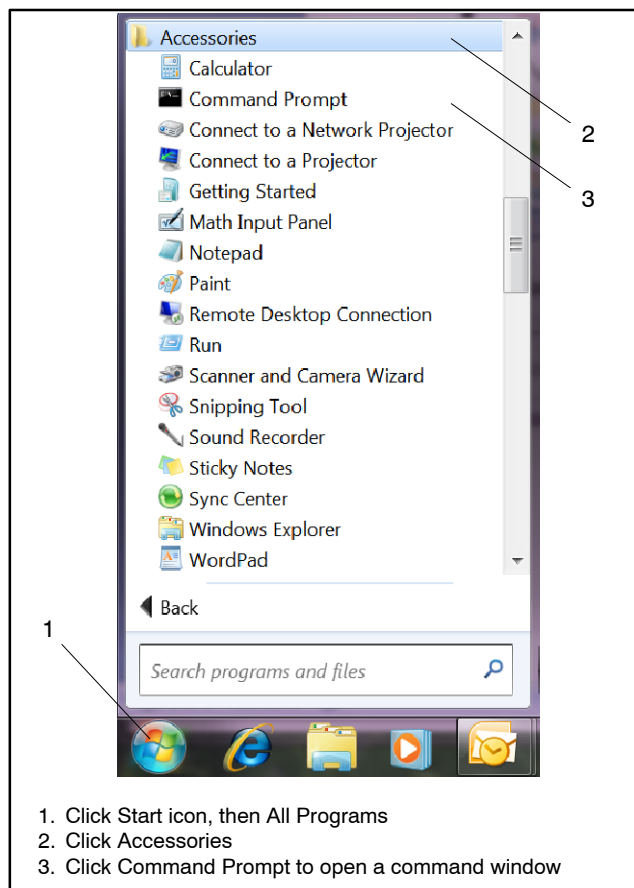

Figure 3-3 Opening a Command Prompt Window
1. Open a command prompt window on the PC by selecting Start, All Programs, Accessories, Command Prompt. See Figure 3-3.